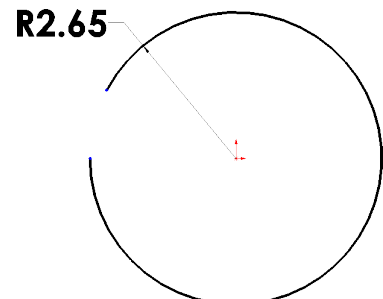

Fig. 3
Step 5. Click **Smart Dimension**  (S) on the Sketch toolbar.
Step 6. Dimension radius of the arc **2.65** **Fig. 3**.